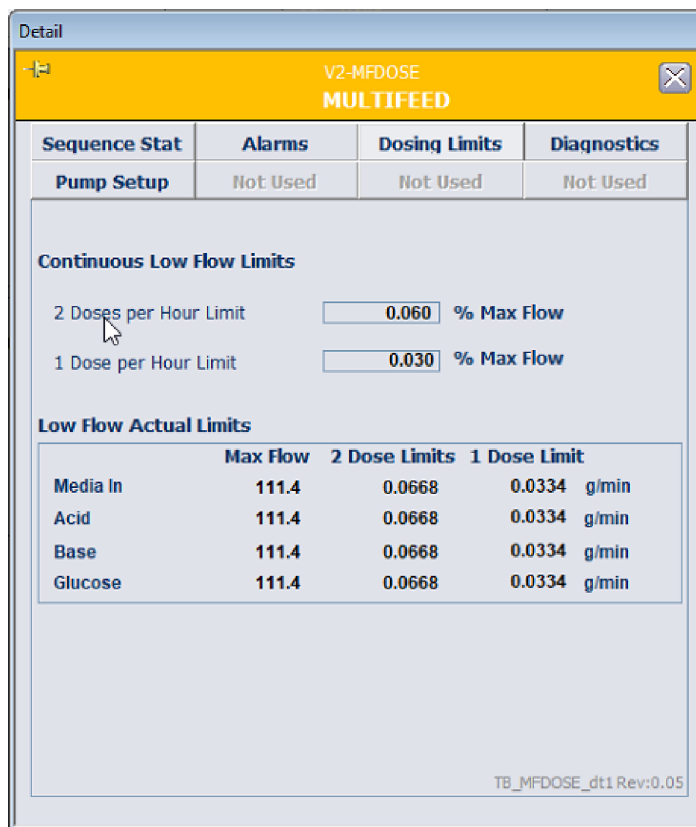

Figure 5.40. Dosing Limits tab flow limits.
5. The **Dosing Limits** tab sets limits for restricting the number of doses per hour (1 and 2), based on the dose rate. Input these limits as a percentage of the maximum flow (Figure 5.40). **Max Flow** is the calibrated maximum flow rate for each pump that is shown on the **Pump** faceplate.
6. In Figure 5.40, if the maximum flow rate of **Pump #1** is 1258.3 g/hr, then the **1 Dose per Hour Limit**, would be $1258.3 \times 0.03\%$ or 0.378 g/hr. Therefore, if the selected dose rate is less than 0.378 g/hr, then only one dose per hour will be generated. If the rate is between 0.378 and 0.755 g/hr, two doses per hour will be generated. If the rate is above 0.755 g/hr, the number of doses would be based on the number of pump phases per hour.